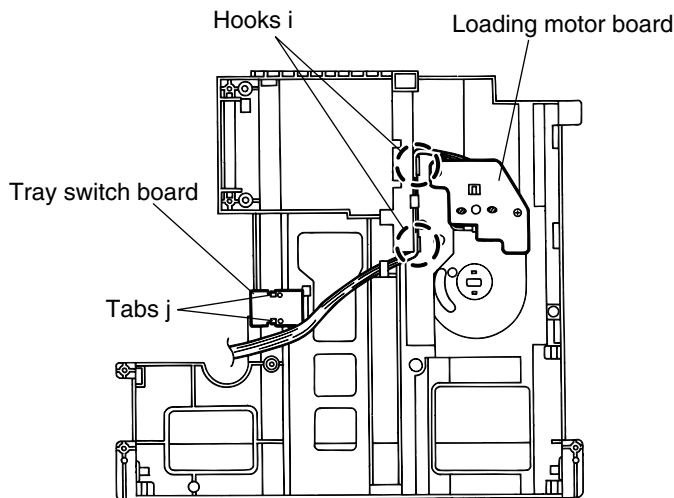

Fig.26
CAUTION: When reattaching the loading motor board, settle the wires on the two hooks **i** on the loading base assembly and draw the other end to the left as shown in Fig.26.
■ Removing the tray switch board (See Fig.26)